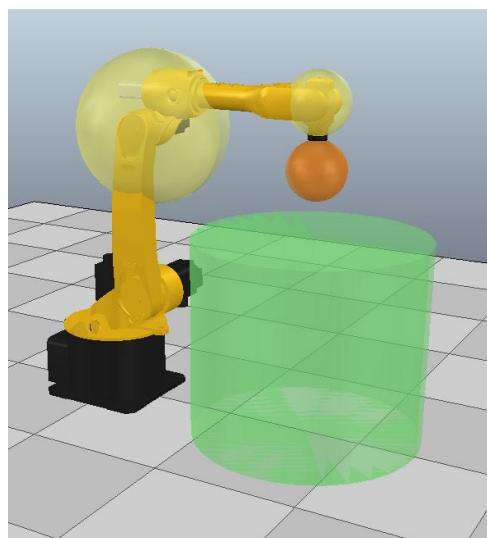

Figure 6-56 Contents of working condition in cylinder working zone
Step2. After obtaining the center of bottom circle, the radius of bottom circle and the height of the cylinder, you need to click <Applicate> button to write the calculated Safety Zone of the cylinder into the database, and then the setting of the Safety Zone of the cylinder will be completed. The contents of working condition after setting is shown in Figure 6-56